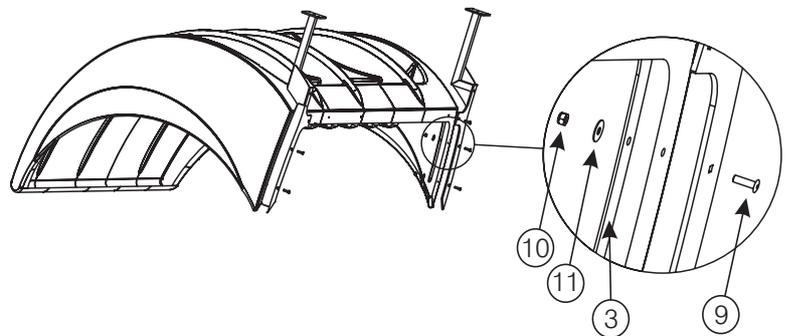

Fig.3
- 3 Bolt Shelter to Anchor Arms** - Loosely bolt shelter to Anchor Arms as shown in Fig 3.